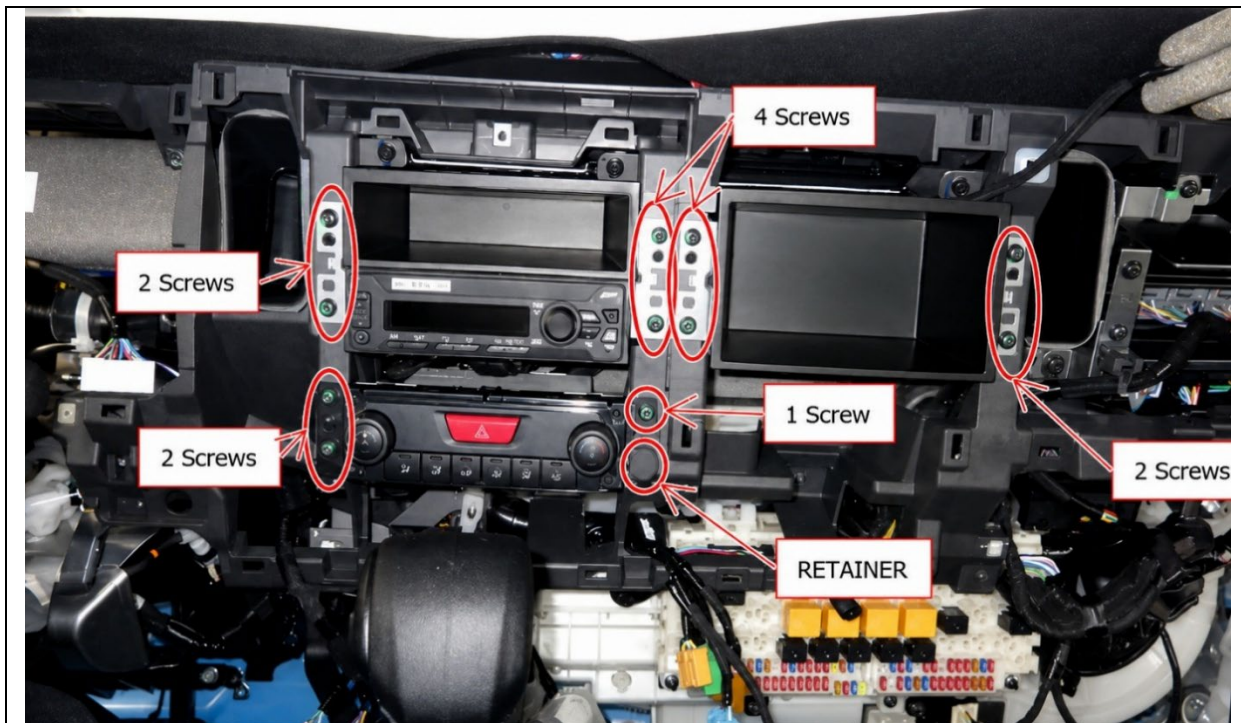

Figure 36
31. Using a T25 Torx screwdriver, remove all the screws and the retainer as shown. (See Figure 36.)